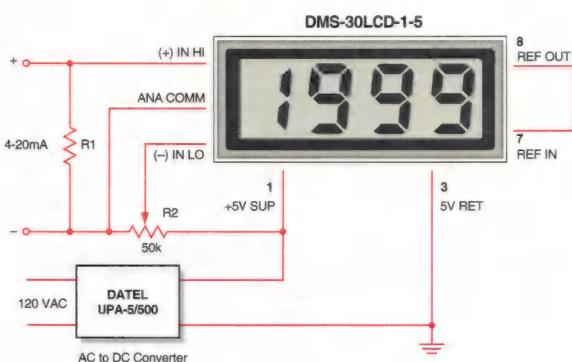

Figure 7. 4-to-20mA Current Loop Operation (5V-Powered Models)
5. Process Control (4-to-20mA) Measurements: In many common process-control applications, a 4-to-20mA current loop is used to transmit information. Because DMS-30LCD meters have such high input impedance, a simple shunt resistor across the meter's input can be used to convert the loop current to a voltage. See Figure 7. The value of the shunt resistor is a
To calibrate the circuit of Figure 7, perform the following: